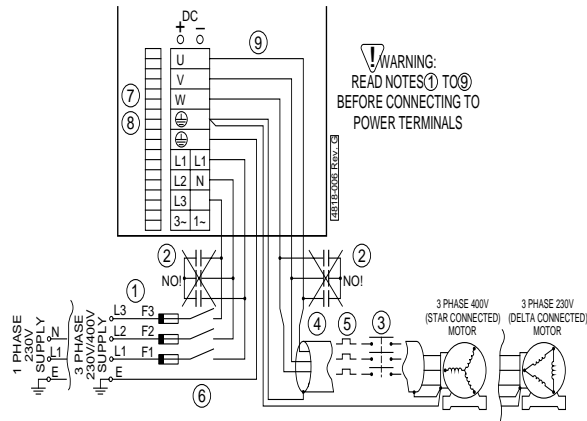

Figure 1: UD3/MF3/MV3 Series Power Wiring Diagram
4. Always use screened cable on the drive output. Bond the screen solidly to the drive and motor chassis. The output cables should be run separately from input and control cables. Maximum output cable sizes are listed in Figure 1.
1. The Elite Series is designed for operation from a three phase earthed neutral supply. The Elite Series' input supply and its cooling fans are not phase sequence sensitive. Input fuses are required - refer to Figure 1 for details.